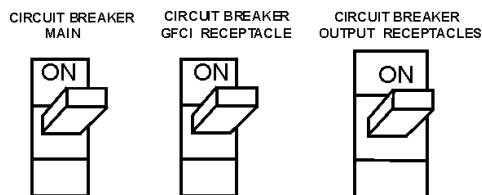

Figure 48. Main and GFCI Circuit Breakers
16. Turn the MAIN, GFCI and LOAD circuit breakers to their ON position (Figure 48).